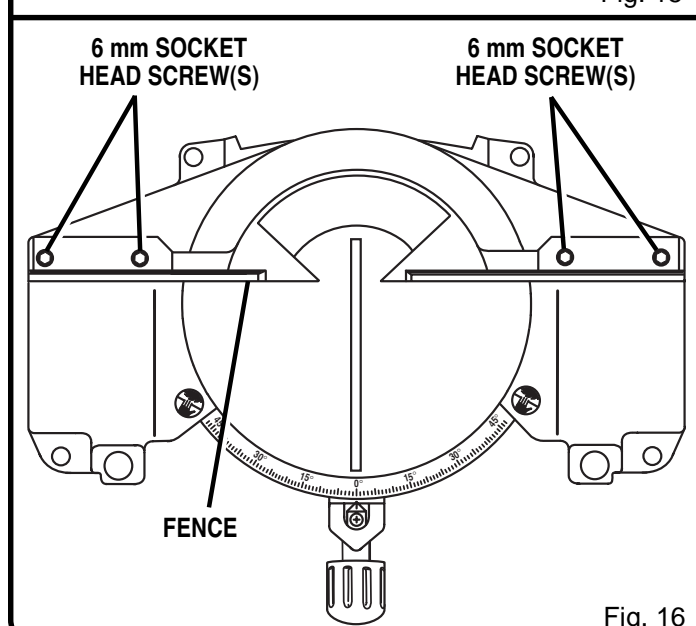

Fig. 16
- Using a 6 mm hex key provided, loosen the socket head screws securing the fence. See Figure 16. Adjust the fence left or right until the framing square and blade slot are parallel.